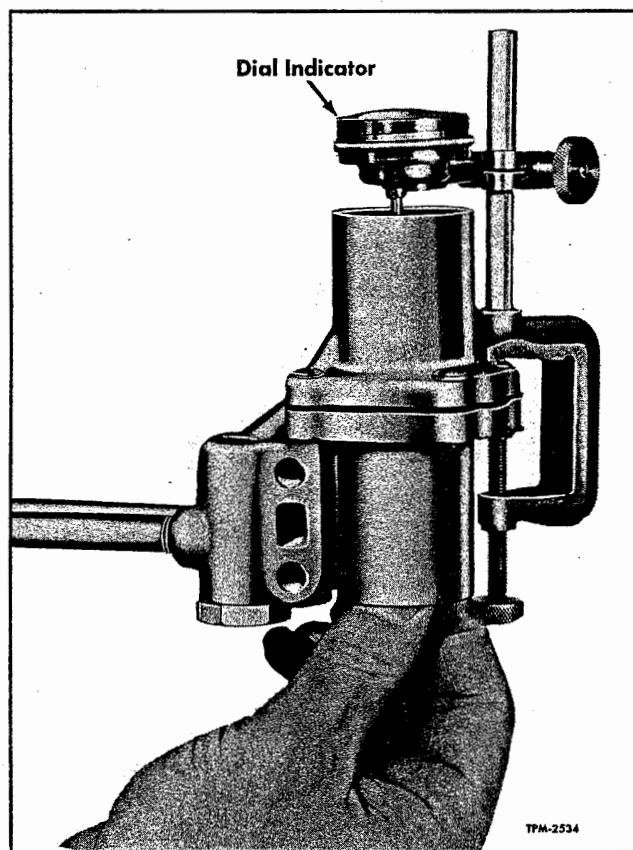

Figure 42—Checking Governor Valve Travel
2. Assemble diaphragm lower follower (18), diaphragm (17), and upper follower (16) on diaphragm stem (19), making sure beveled side of both followers are toward diaphragm. Install nut (15), tighten to 10-15 inch-pounds torque, and secure with cotter pin (14). Bend both legs of cotter pin toward the diaphragm.
3. Install new greased grommet (20) in groove in diaphragm stem (19). Install diaphragm and stem in spring cage (21), making sure stem is a neat sliding fit in bore in spring cage.
5. Install strainers (22), felt washers (23), and strainer screw caps (25), in bottom of spring cage, using new greased grommets (24) in grooves in screw caps. Tighten screw caps firmly.
6. Measure total valve travel (fig. 42) by pulling diaphragm stem down as far as possible and setting dial indicator at zero when contacting top of exhaust stem. Push diaphragm stem completely in and read total valve travel on dial indicator. Total travel should be 0.060" to 0.098".
7. Install new greased grommet (6) in groove on inlet valve seat (7), then install inlet valve seat and inlet-exhaust valve, then repeat the above check starting with the indicator zeroed on end of inlet-exhaust valve. Add or remove shims (8) under inlet valve seat until valve travel is within 0.030" to 0.040".
8. Install inlet valve seat retaining spring (3) and inlet valve spring (4). Install new greased grommet (2) on valve body screw cap (1) and thread screw cap into valve body. Tighten screw cap firmly.
9. Install pressure setting spring (26) and spring seat (27) on diaphragm stem in spring cage and secure with adjusting nut (28).
10. Mount governor on suitable test rack or on vehicle and connect air pressure source to port marked "RES." Leave spring cage screw cap (31) removed.
11. Build up pressure from zero and note pressure at which air starts to escape from spring cage. If less than 100 psi, turn adjusting nut clockwise; if above 105 psi, turn adjusting nut counter-clockwise. After final adjustment, leakage should start at 100-105 psi. Secure adjusting nut (28) with cotter pin (29).
12. Install new greased grommet (30) in groove in spring cage screw cap (31) and thread cap into spring cage. Tighten firmly.